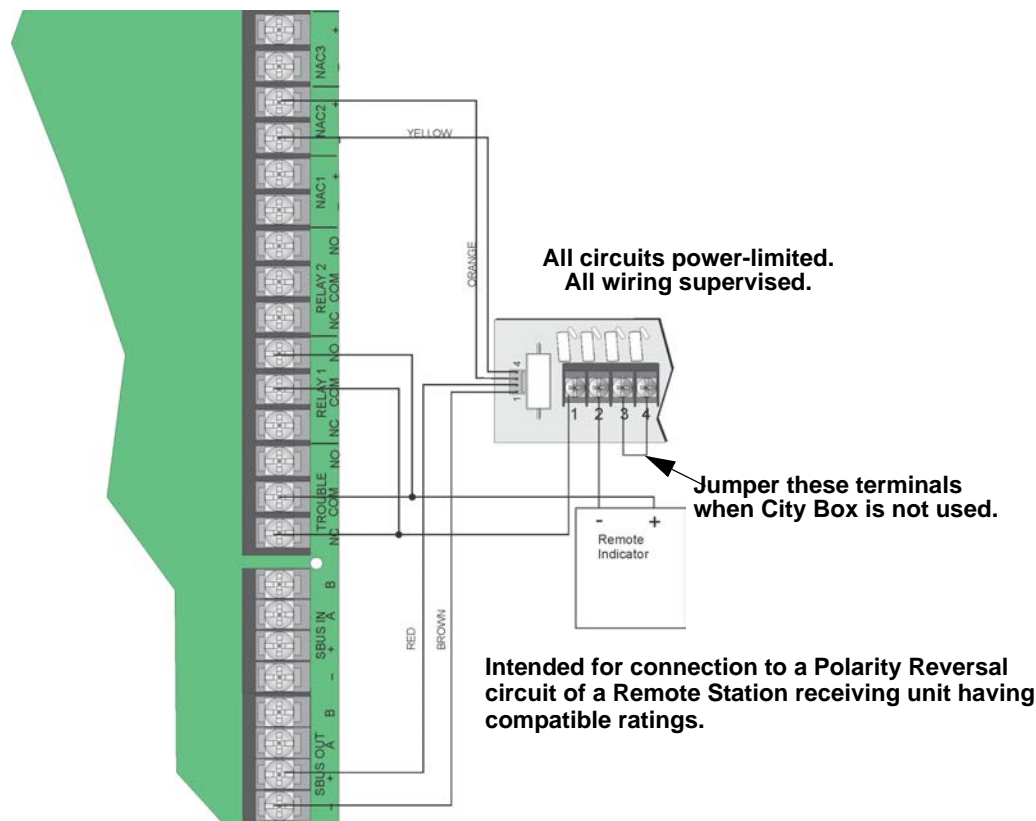

Figure 4.57 Polarity Reversal Connection Using the 5220 Module
2. Wire the 5220 to the control panel using the four-wire pigtail provided as shown in Figure 4.57. This diagram also shows how to connect the 5220 to the remote indicator.